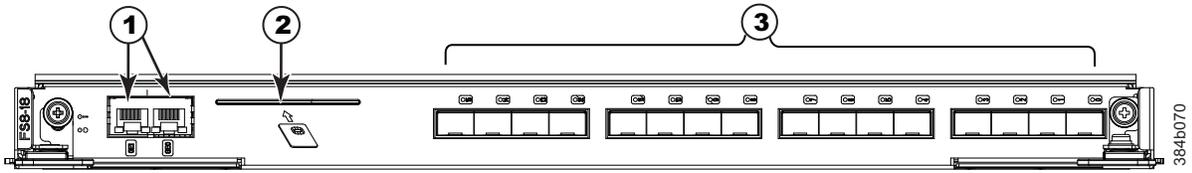

Figure 60. FS8-18 encryption blade
- Figure 60 on page 147 shows an FS8-18 encryption blade